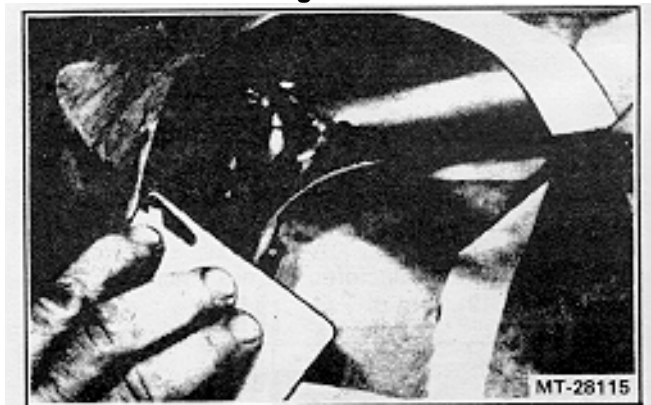

Figure 16—Applying Glazing Putty
9. If the filler is slightly porous (has fine pinholes). Apply a thin coat of glazing putty (Figure 16)